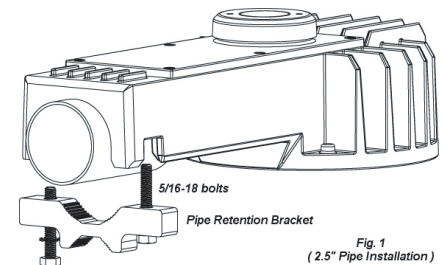
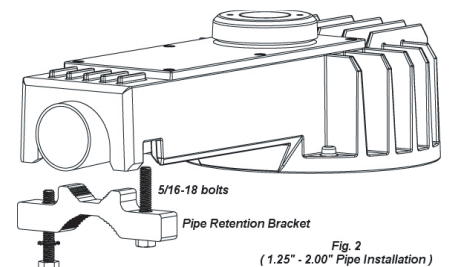

Fig. 1
Fig. 2
- See Fig. 1 for 2.5" pipe installation; Fig. 2 for 1.25" - 2.00" pipe installation